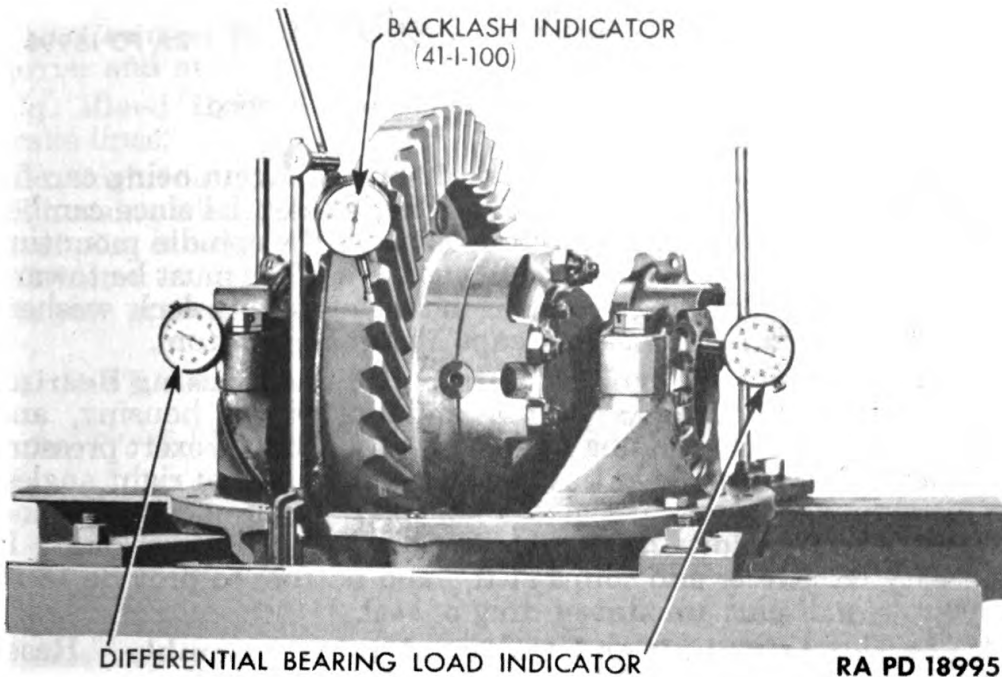

Figure 73 — Differential Bearing and Gear Backlash Adjustment
e. **Adjust Differential in Carrier.** Mount three dial indicators on carrier flange, having one pointer against each carrier bearing and the third one so installed that gear backlash can be measured (fig. 73). Adjust carrier bearing adjusters to provide specified backlash (measurement marked on side of gear). Set the two side dial indicators at zero. Now tighten each adjuster to provide 0.006- to 0.010-inch movement on the indicator dial at each bearing, or a total of 0.012- to 0.020-inch movement. This places a preload on the bearings. *NOTE: This is generally about a notch on each adjuster.* Tighten carrier bearing cap bolts, install adjuster locks and cotter pins, and install carrier bearing cap bolt lock wires.